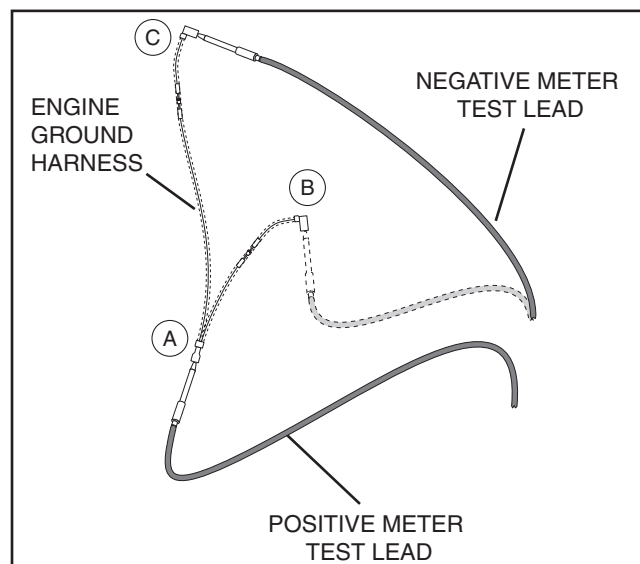

Figure 7-38. – Engine Ground Harness Test Points
13. Disconnect the engine ground harness from the ignition magnetos and stud connector (see Figure 7-38).